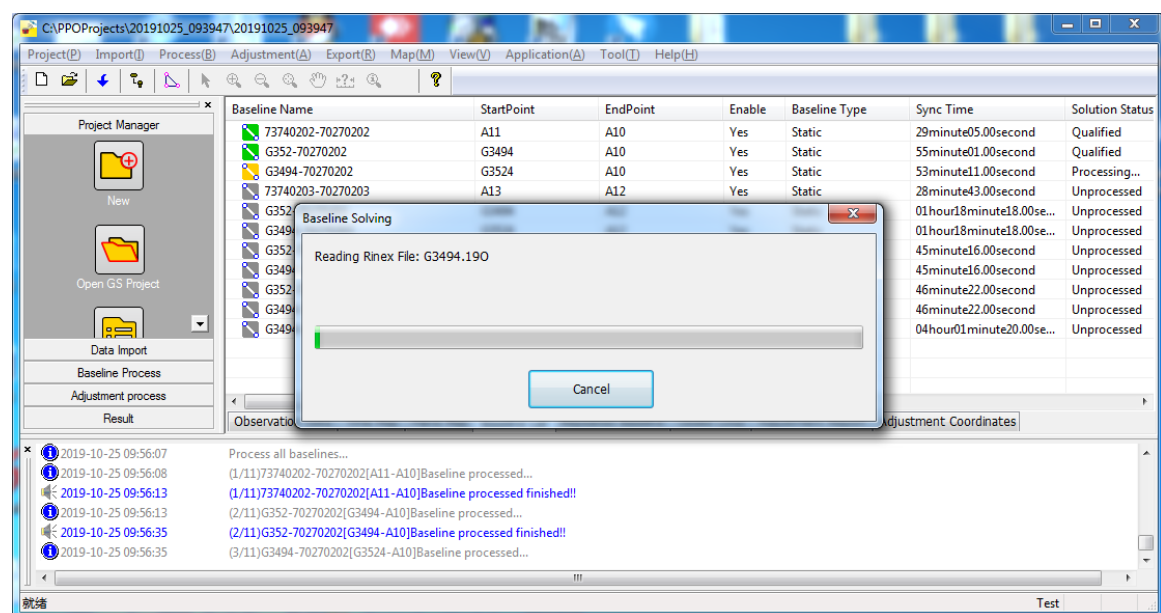
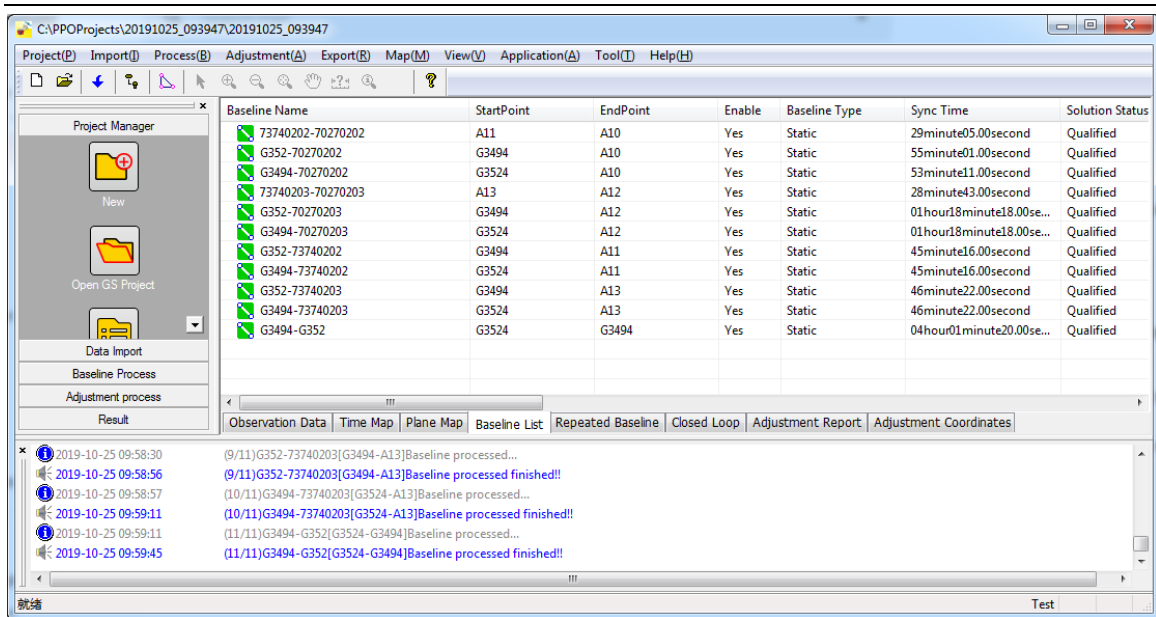

Figure 2-6
Figure 2-7
- a. Click [Process] - [Process all baselines] to process all the baselines as shown in Figure 2-6. When the Figure 2-7 appears, it means process complete. green refers to baselines that succeed to process, while red refers to those failed.